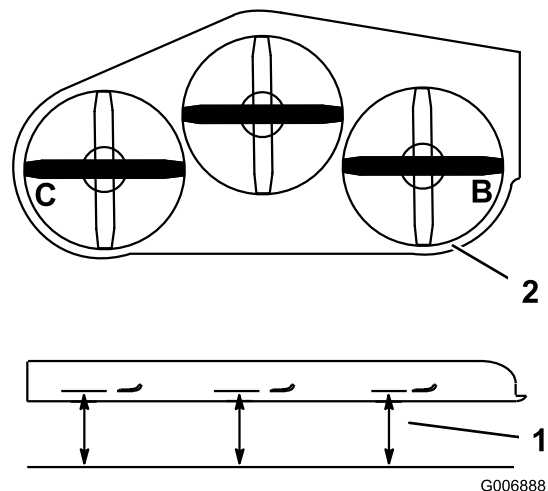

Figure 82
3. Position the blades side-to-side. Measure at **B** and **C** locations from a level surface to the cutting edge of blade tips (Figure 82).